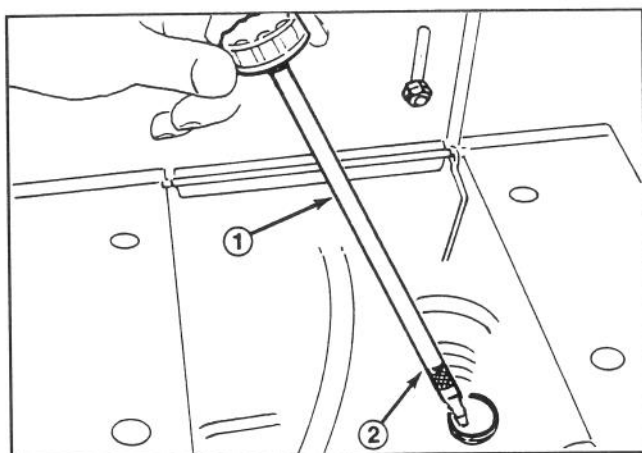

Figure 4
3. Remove the dipstick from the fill tube (Fig. 4).
5. Slowly pour oil into the crankcase (Fig. 4). The engine uses any high quality detergent oil having the American Petroleum Institute (API) "service classification" SF or SG. Select oil viscosity (weight) according to expected ambient temperature.
6. Rock the rider gently to release any air that may be trapped in the crankcase. Screw the dipstick fully into the fill tube; then remove it and make sure the oil level is up to the FULL mark on the dipstick (Fig. 4). If the level is low, add only enough oil to bring the level up to the FULL mark.